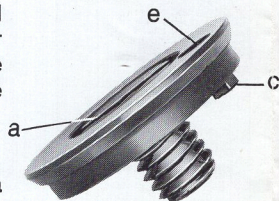
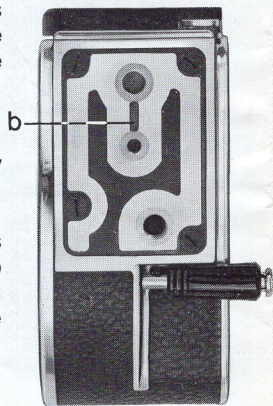
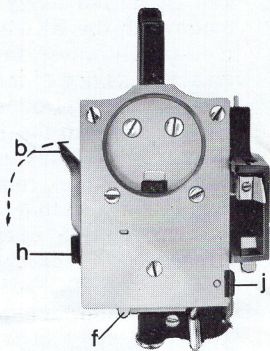

Fig. 1
Fig.2
Fig. 3
This hand grip is designed for use with the H16 and H8 cameras with flat bases. A quick attachment device enables it to be mounted and removed instantaneously. An adapter (fig. 1) fitted to the camera base enables the hand grip to be locked in position when the lever (b) is operated (see fig. 3).
The adapter should be fitted into the forward threaded hole in the camera base (see fig. 2). On fig. 1, note the locking pin (c). This fits into the groove (d) in the camera base (fig. 2). To safeguard against any possible play, proceed as follows :-
- Move the lever back, as shown in fig 3. The attachment device is now « open ».